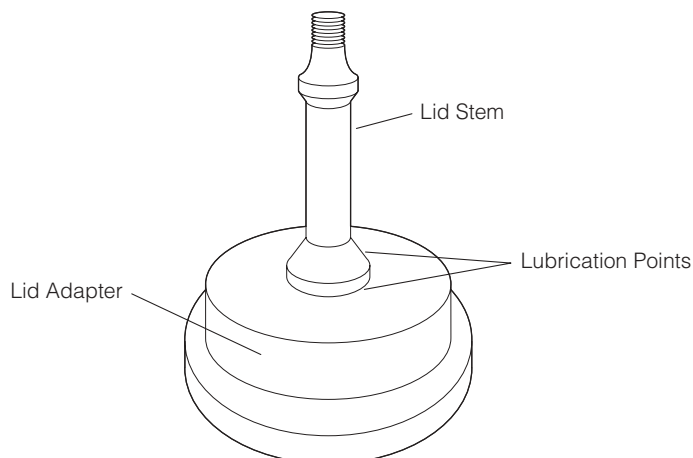

Figure 5. Lubricating the Lid Stem
- To prevent abrasion of the metal rotor tie-down components, place the rotor lid upside down on a flat surface and put two or three drops of Tri-Flow⁵ oil between the lid adapter and the lid stem (see Figure 5). This area should be lubricated every few weeks or after each autoclave cycle.